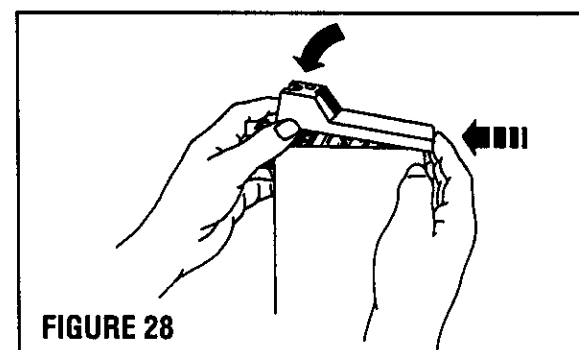

FIGURE 28
4. Assemble the Housing Cap onto the Filter Housing by reversing the procedure of paragraph E.3. That is, slide the Housing Cap onto the front of the Filter Housing to engage the underside lip of the Cap onto the small ledge at the top front of the Filter Housing. (Figure 28) Once engaged, pivot the Cap down onto the top of the Filter Housing and rotate